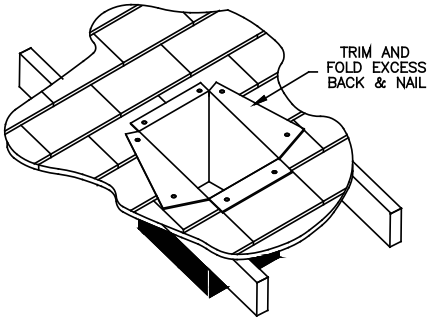

Figure 32
7. If the Support Box protrudes the roofline use tin snips to cut from the top corners down to the roof line, and fold the resulting flap over the roof sheathing (*Figure 32*). Before nailing it to the roof, run a bead of non-hardening sealant around the outside top edges of the Support Box so as to make a seal between the box and the roof. Clean out any combustible material or debris from inside the Support Box.
9. Connect the necessary amount of Pipe Sections to reach the stove and extend at least 12-inches above the roof before attaching Termination Cap (*Figure 32*).